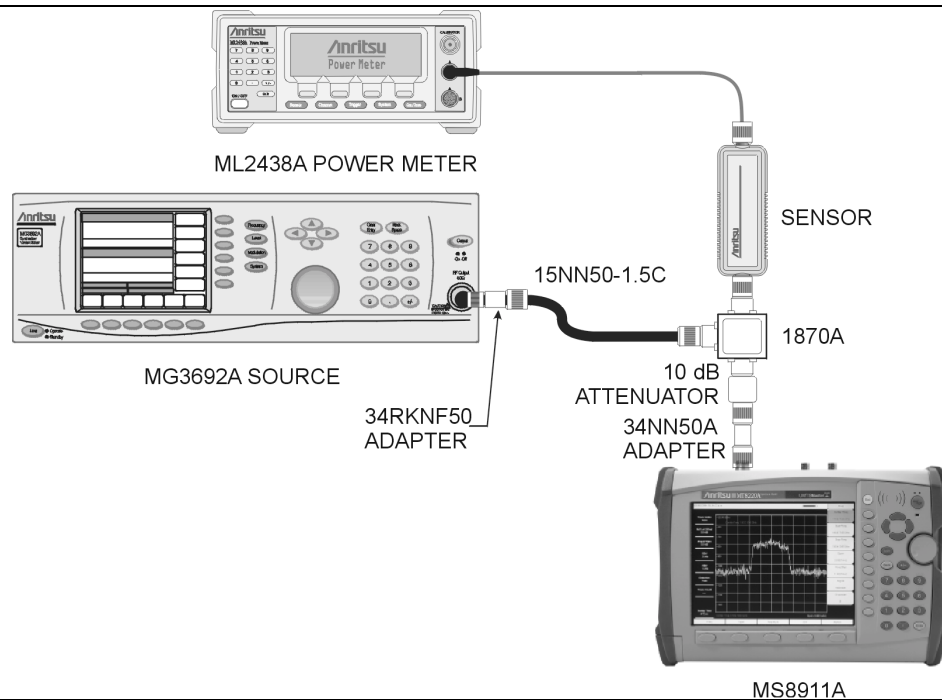

Figure 3. Level Accuracy Across Frequency Test Setup
1. Remove sensor A, install the 34NN50A adapter to the end of the Attenuator, and connect to the MS8911A as shown in Figure 3.
1. Remove sensor A add the adapter and connect it to the ISDBT Field Tester as shown in Figure 3.
5. On the ISDBT Field Tester, press the **Shift** key, the **Preset** (1) key, and then the **Preset** soft key to reset the instrument to the default starting conditions.